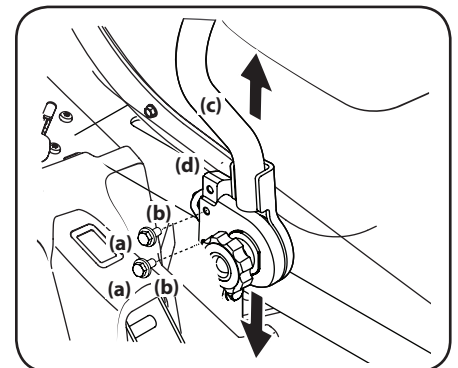

Figure 4-7
1. Remove the hex screws (a) and flat washers (b) securing the drive control lever (c) to the lower arm assembly (d). Refer to Figure 4-7.